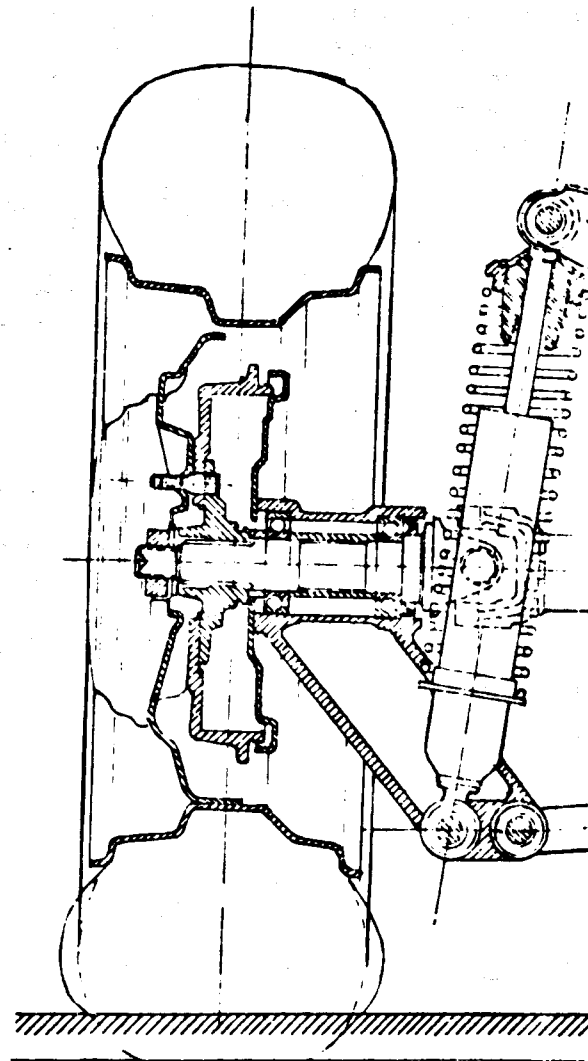

Fig. 6 - Cross Section of Rear Hub.
7. To remove the bearings which are situated within the bearing housing of the radius arm, (see Fig.6) it is necessary to remove the radius arm itself (see section 'D').